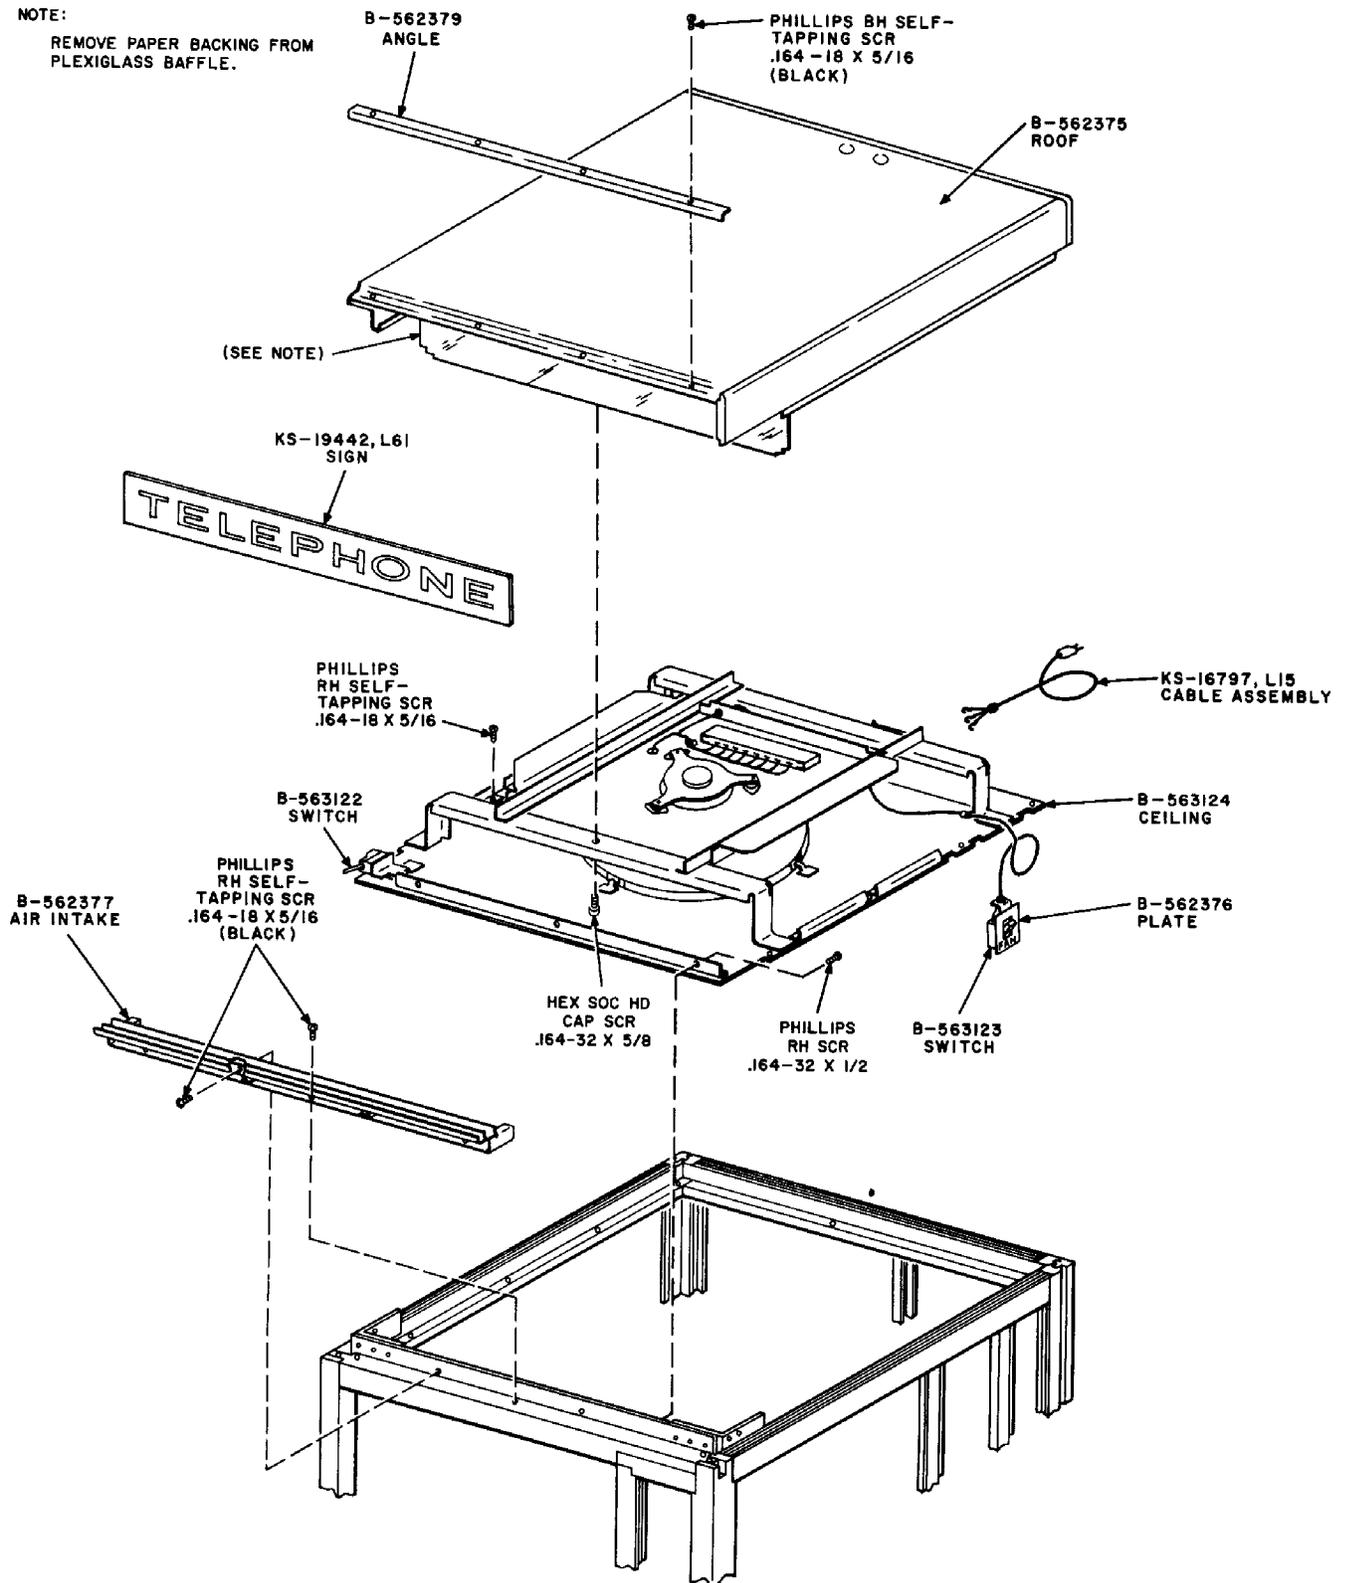

Fig. 12 — Installation of Ceiling and Roof Assembly
- (m) Install B-562377 air intake (Fig. 12) on header using five .164-18 by 5/16 painted round head self-tapping screws. Secure air intake to corner braces using two .164-18 by 1/2 unpainted Phillips head self-tapping screws.
- (ai) Place B-562375 roof (Fig. 12) on ceiling assembly and secure with the three cap screws removed in (o).